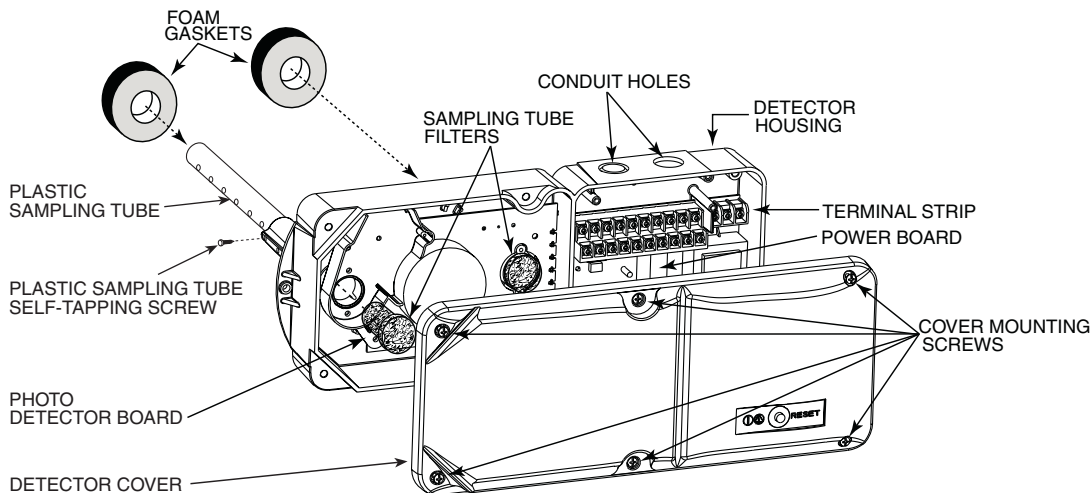

Fig. 1 — Smoke Detector
Table 1 lists the accessory package contents. Figure 1 shows the smoke detector.
4. Place foam gaskets over each sampling tube on smoke detector. See Fig. 1.
16. Return to auxiliary control box section and insert sampling tube filters into both sampling tube holders. (See Fig. 1.)
15. Insert sampling tube filters into both sampling tube holders. See Fig. 1.